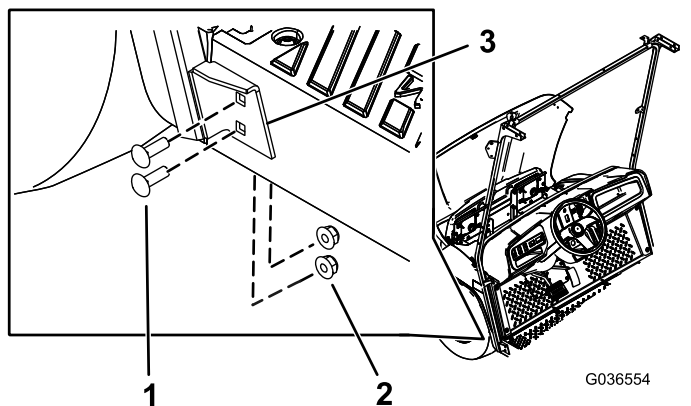

Figure 32
4. Secure the lower bracket of the left and right windshield supports to the machine using 4 carriage bolts (5/16 x 1 inch) and 4 flange nuts (5/16 inch) in the holes you drilled in step 1 (Figure 32).